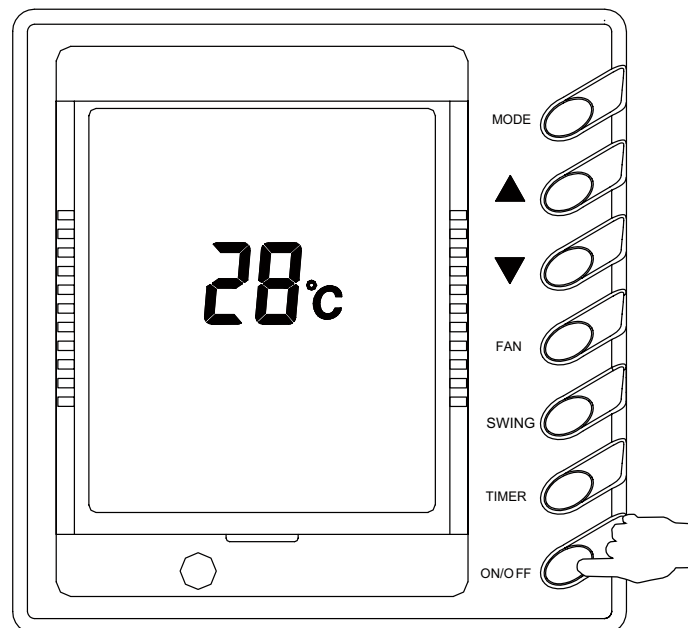

Fig. 7.1
- ① . Press ON/OFF to turn on the unit.
- ② . Press ON/OFF again to stop the unit.
- ⚠ Note: Fig. 7.1 shows the OFF state after power on.